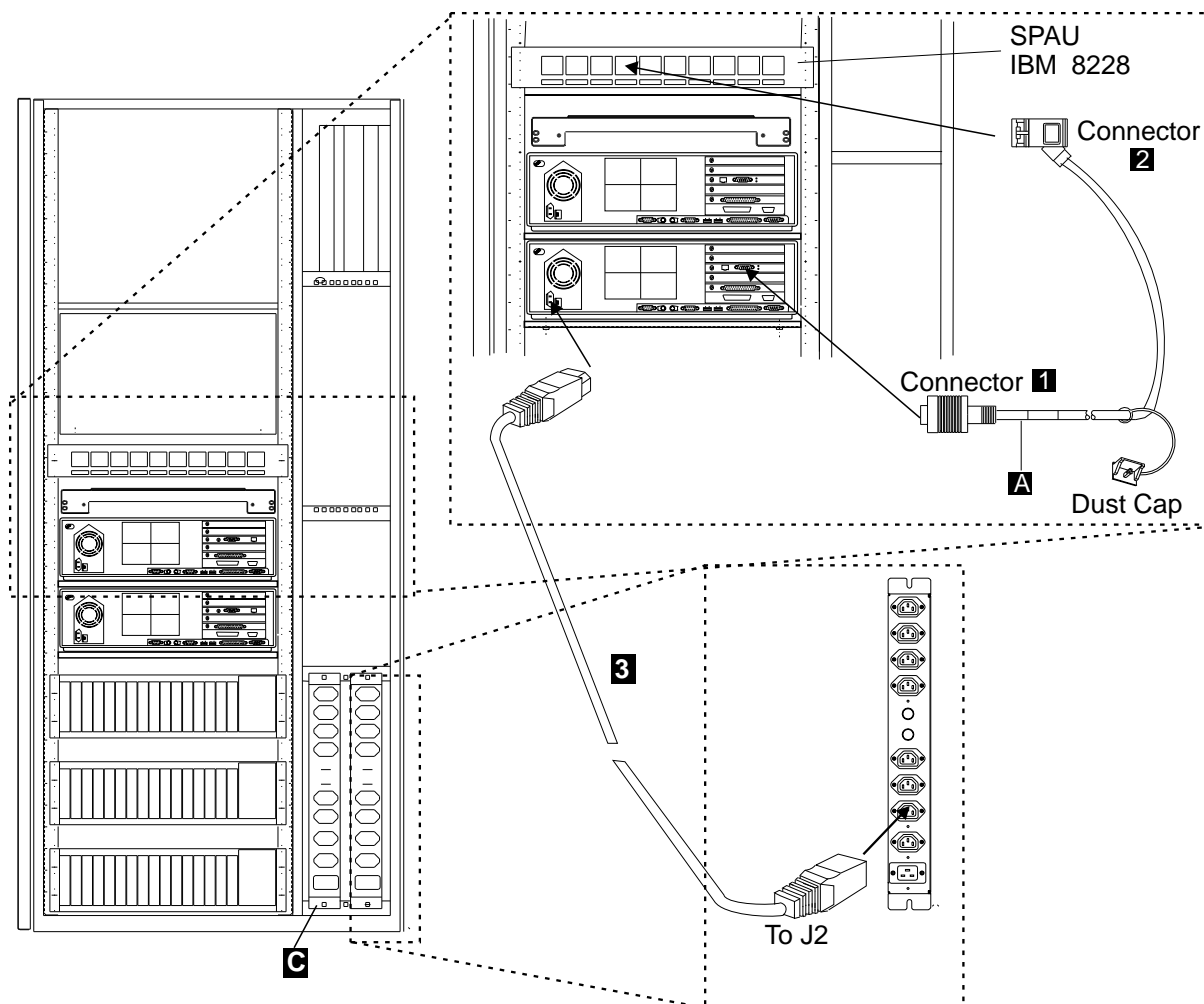

Figure 11. Connecting the NNP-B (7585)
- 1. Plug connector **1** of cable **A** (PN 6339098) (see Figure 11) to cable **B** (PN 60G1066).